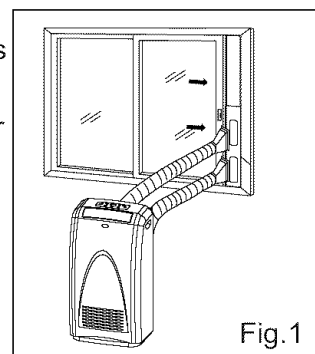

Fig.1
2. Install the flexible exhaust hose and adjustable window slider kit as depicted in Fig.1.